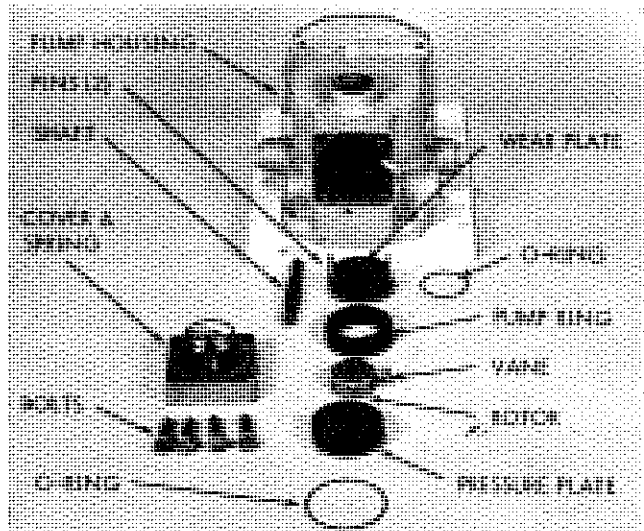

Figure VI-11. Disassembly of Replenishing Pump
5. Disassembly of Replenishing Pump (Figures VI-11 and VI-12)